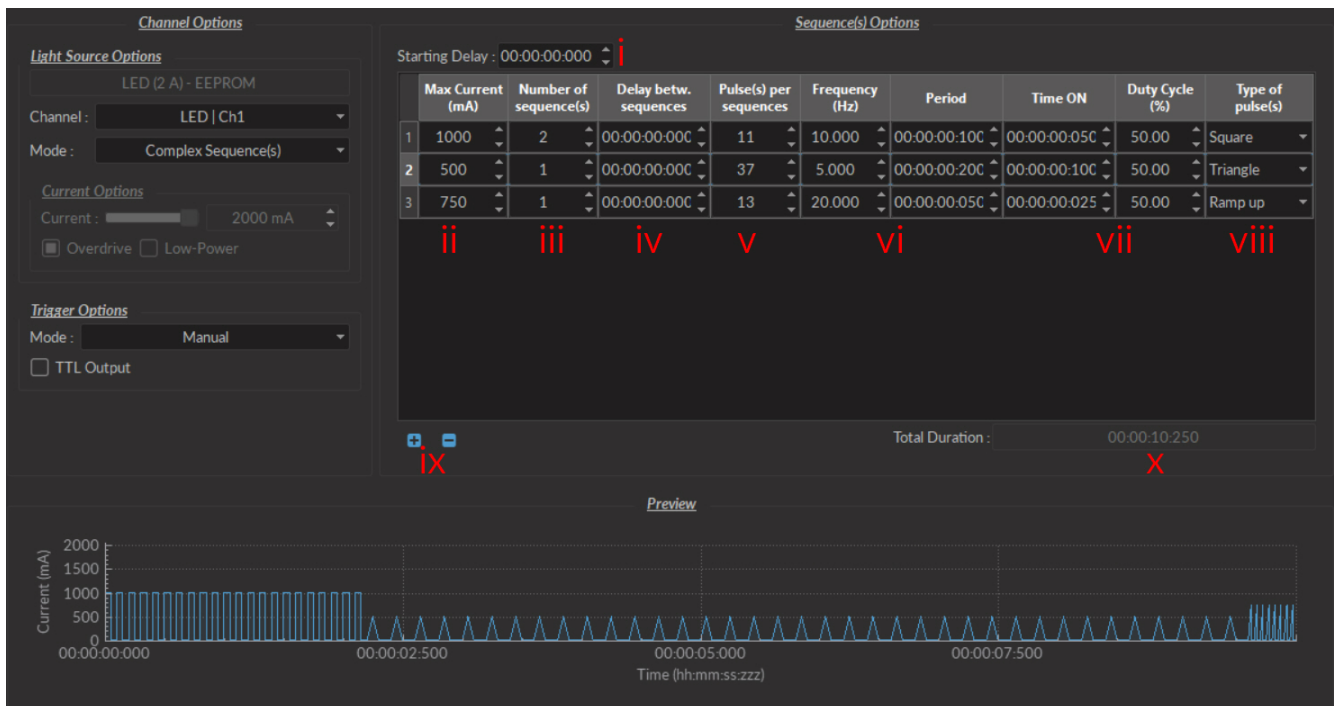
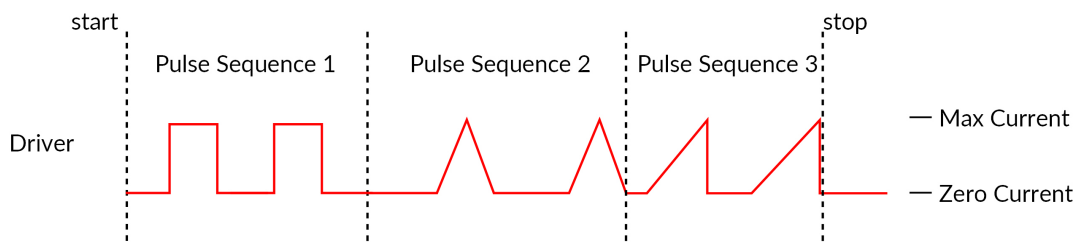

Figure 4.8: Complex Sequences Window
Figure 4.9: Internal Complex Mode Pulse Sequences
- The **Starting Delay** (Fig. 4.8) sets the delay (in hh:mm:ss:zzz format) before the first pulse sequence.
- The **Max Current** (Fig. 4.8) sets the maximum current (in mA) for the given sequence.
- The **Number of sequences** (Fig. 4.8) sets the number of times that the sequence will be repeated, with a minimum of 1.
- The **Pulses per sequence** (Fig. 4.8) sets the number of pulses per sequence, with a minimum of 1.
- The **Delay between sequences** (Fig. 4.8) sets the delay (in hh:mm:ss:zzz format) between each sequence if the **Number of Sequences** is greater than 1.
- The **Frequency/Period** (Fig. 4.8) sets the frequency (in Hz) or period (in ms) for the pulse sequence. These two values are linked, and when one is changed the other will adjust automatically. For example, a signal at 10 Hz (frequency) will output one pulse every 100 ms (period), whereas a pulse sequence at 0.5 Hz (frequency) will output one pulse every 2000 ms (period).
- The **Time ON/Duty Cycle** (Fig. 4.8) sets the time (in ms) or the duty cycle (in %) for each pulse. These two values are linked, and when one is changed the other will adjust automatically. The **Time ON** must be lower than  $(1/\text{frequency})+0.005$  ms, while the **Duty cycle** must be below 100 %.
- The **Types of pulses** (Fig. 4.8) sets the pulse type. Pulses can be **Square**, triangular (**Triangle**), **Ramp up** **Ramp down** or **Delay** (Fig. 4.9). The **Delay** pulse type is used to create a delay between different sequence
- The **Sequence controls** (Fig. 4.8) allow the addition (+) or removal (-) of sequences to the spreadsheet.
- The **Total Duration** (Fig. 4.8) displays the total time of the experiment. The different values can be *Inf* for infinite, a valid time value or *Err* if the **Time ON** value is greater than  $1/\text{frequency}$ .